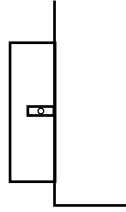

Fig. 5: CO2 Entrance
- The joint of the gas entrance is at the back panel of the equipment (refer to Fig 5).